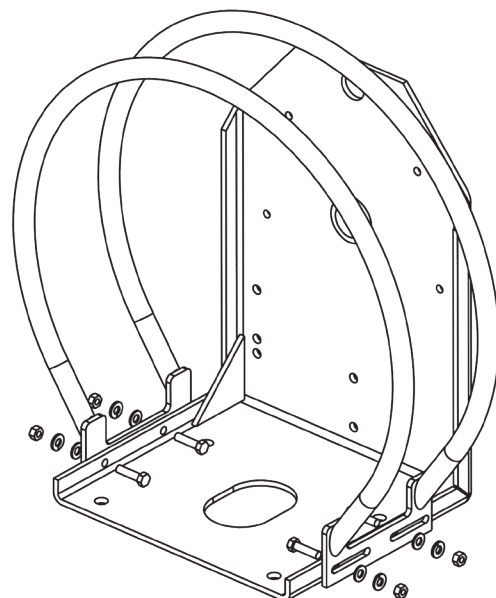

Figure 4-7
4.2.1 All 1900 & 2400 Series Cable Reels can be furnished with a pivot base to allow the reel to rotate and keep the extended cable perpendicular to the application. **See Figure 4-7.**
2. Mount Rails as shown in **Figure 4-7.**